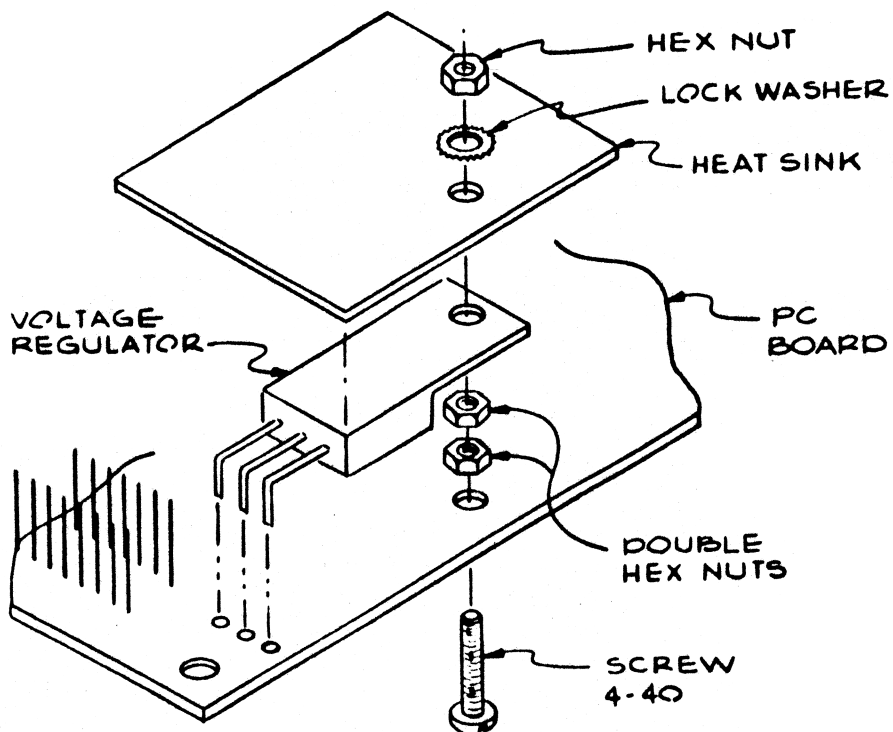

FIG. 4
6. Assemble and solder all of the other components before you put the voltage regulator on the board. Note that this part DOES NOT mount on the component side of the board with the other components. It mounts on the back, or circuit side. (Refer to Fig. 4.) Be sure to mount it with the printing towards the board. Don't forget to install the aluminum heat sink as shown.
After all the other parts have been assembled and soldered, add the connector. (See Fig. 4). Insert it on the component side. Make sure the white key in pin "3" is to the left. It doesn't go all the way against the board. Before it can be aligned, the case must be partially assembled. Put the four 3/4" screws thru the case & hex spacer. Secure hd with four white nylon nuts. Now adjust the connector so that the back of it is flush with the inside edge of the metal case.